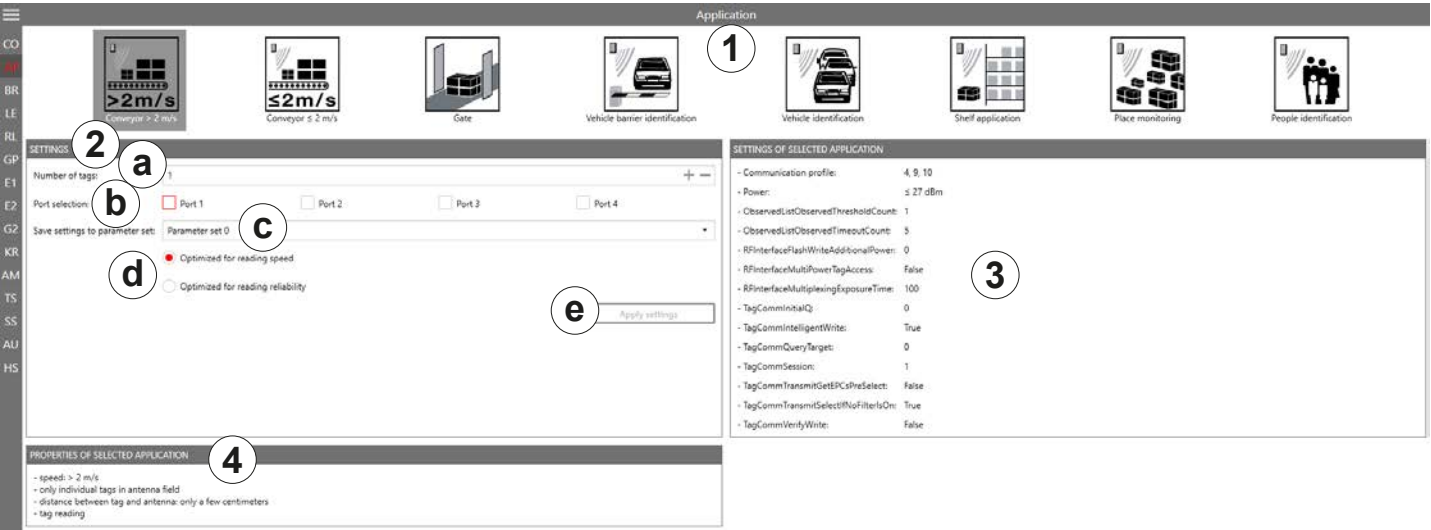
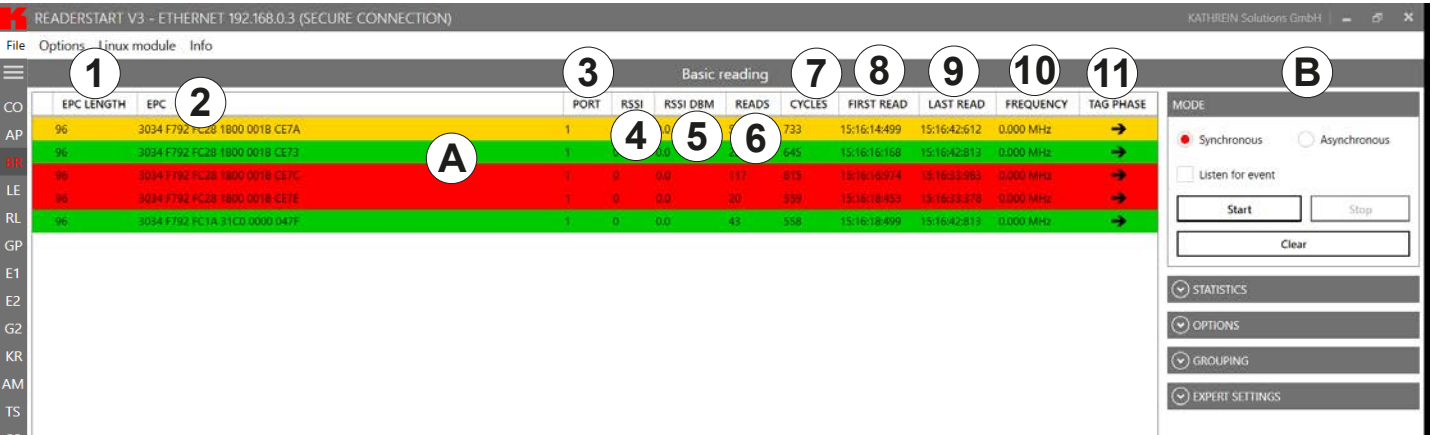

Fig. 51: Application tab
Fig. 52: Basic reading
- Click *Start* (④ in Fig. 52) to start the reading.
- Click *Stop* (⑤) to stop the reading.
- Click *Clear* (⑥) to remove all tag entries from the table (Ⓐ in Fig. 51)